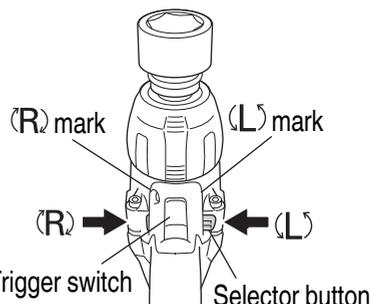

Fig. 4
The anvil rotates clockwise (viewed from the rear side) by pushing the R-side of the selector button. The L-side of the selector button is pushed to turn the anvil counterclockwise (See **Fig. 4**) (The (L) and (R) marks are provided on the body).